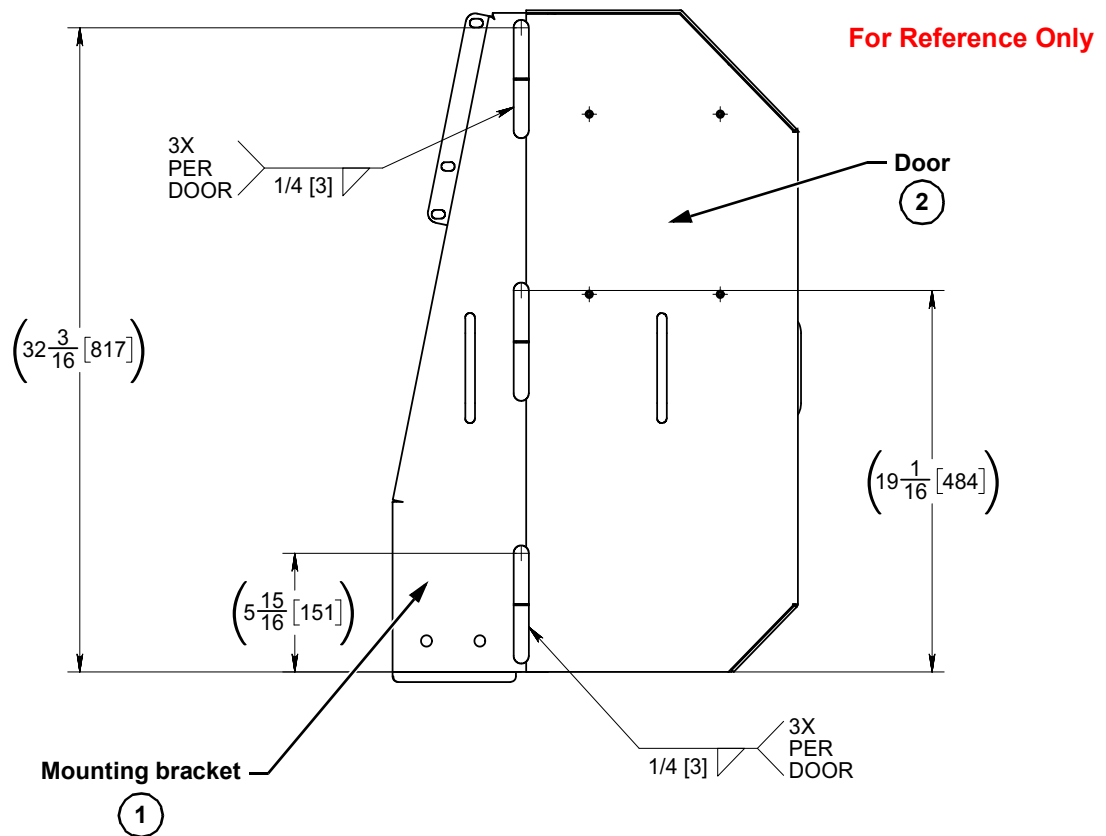

Figure 3: Brake guard door hinge welds
2. Re-weld correctly per Figure 3 on page 3. Ensure the door (item 2) pivots on hinge when opening/closing.